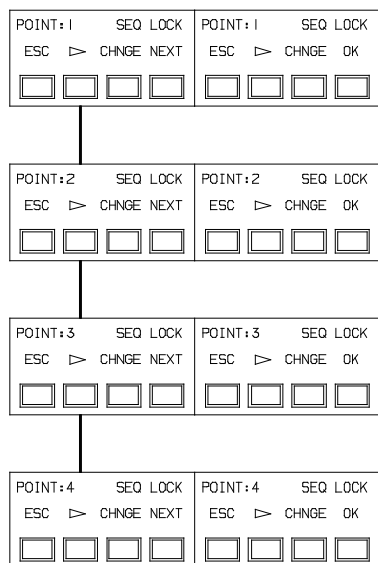

Figure 3-12
- After an hour (if no buttons are pushed), the monitor returns to normal sequencer operation (see FIGURE 3-12).